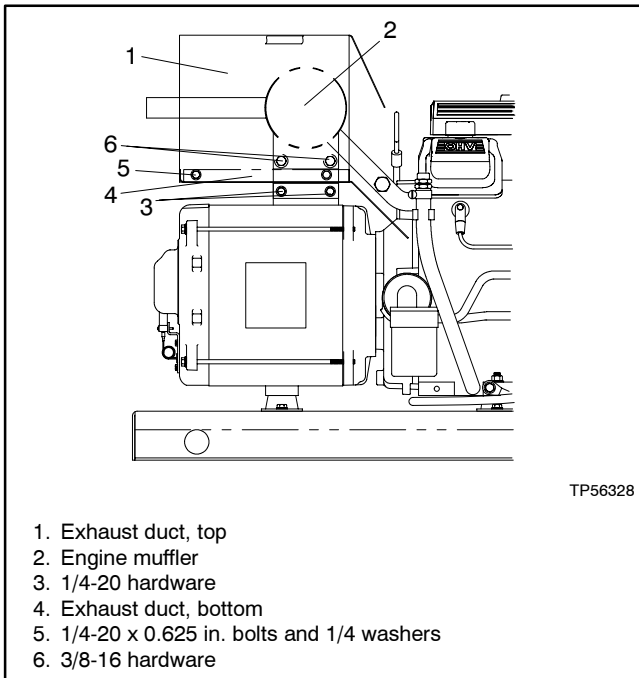

Figure 8-15 Exhaust Muffler Duct
7. Install the exhaust system. See Figure 8-15.